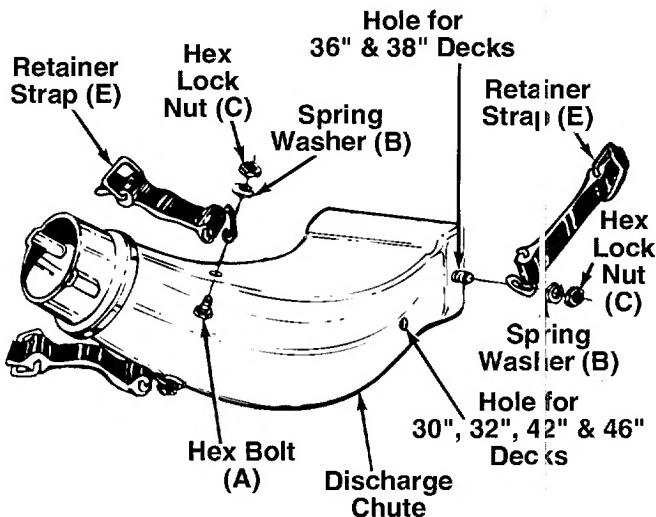

FIGURE 7.
2. Assemble two retainer straps (E) to the upper end of the discharge chute as shown in figure 7. Secure with hex bolts (A), spring washers (B) and hex lock nuts (C).
**NOTE:** When assembling the retainer strap to the lower portion of the discharge chute, select the proper hole location for your deck as shown in figure 7.
3. Assemble retainer strap (E) to the lower portion of the discharge chute, selecting proper hole as shown in figure 7. Secure with hex bolt (A), spring washer (B) and hex lock nut (C).